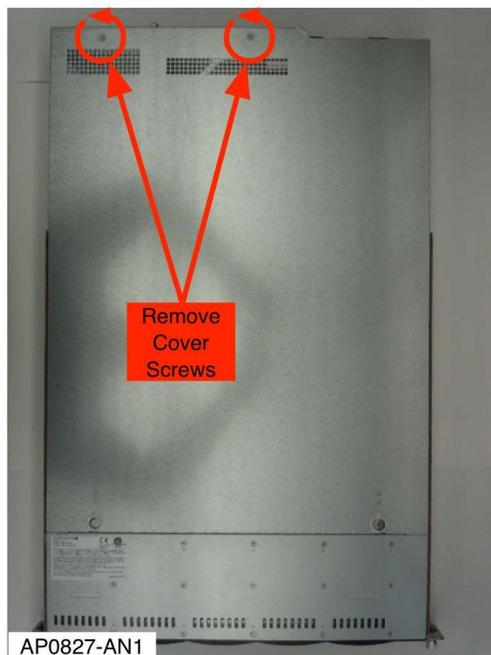

Figure 1: Removing Cover Screws
- 1.1 Prepare to remove the cover of the chassis by first removing the two flathead securing screws on the top rear of the cover. Retain the screws for subsequent reinstallation. See Figure 1.